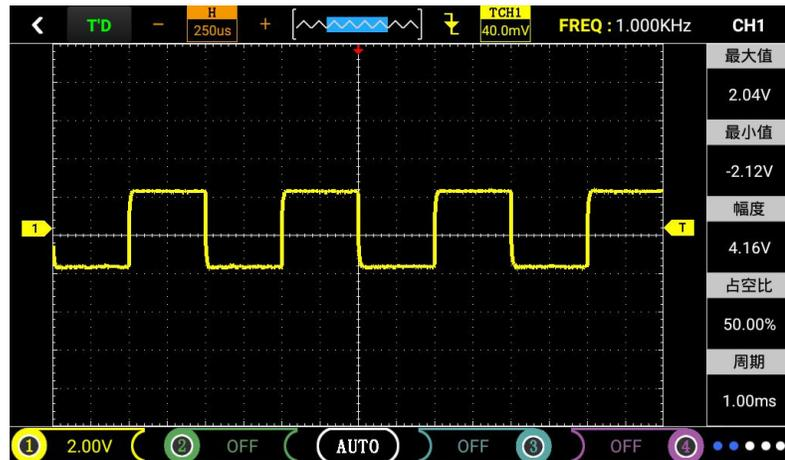

Figure 4-1
- b) Click on CH1 to page, you can observe the maximum, minimum, duty cycle, amplitude. (similar to CH2-CH4). As the Figure 4-1.